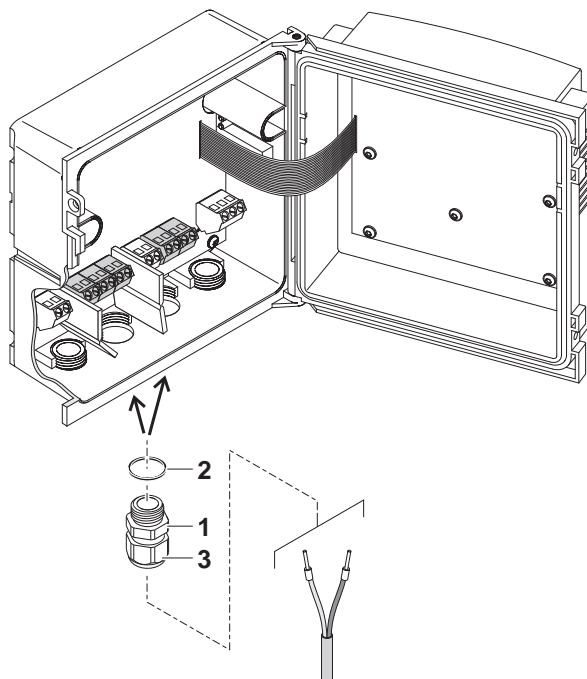

Fig. 3-31 Inserting lines
| 12 | Screw a cable gland (pos. 1 in Fig. 3-31) with the sealing ring (pos. 2) into the enclosure below the respective connections. |